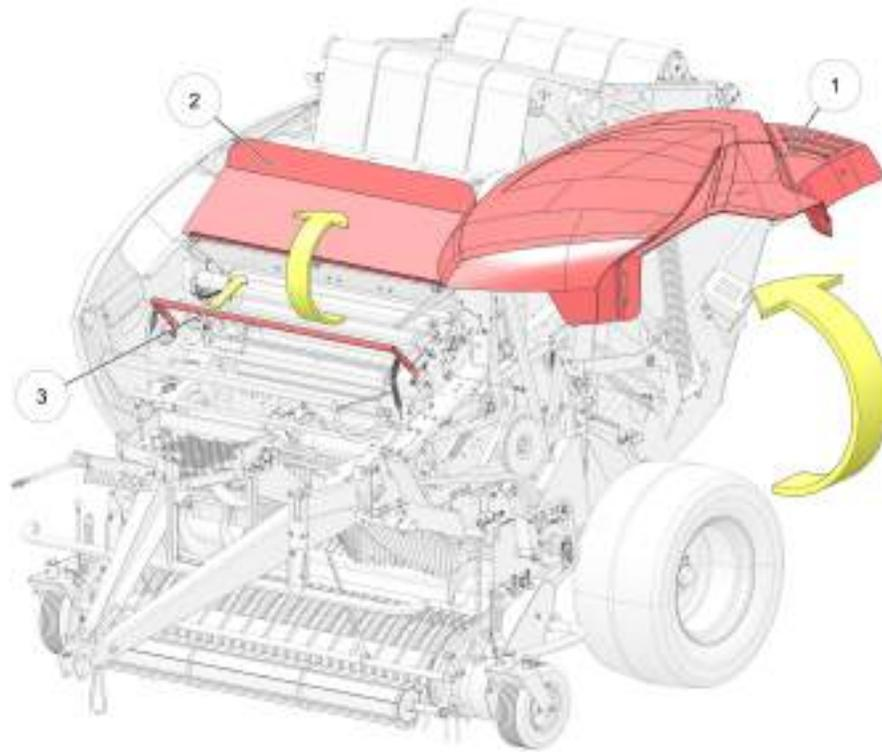

Figure 40. Covers
10. Remove the cotter pin and turn the bar (3) (see Figure 40 on page 7-16) of the net tightener to the front.
12. Close the top cover (2) (see Figure 40 on page 7-16) and side cover (1).